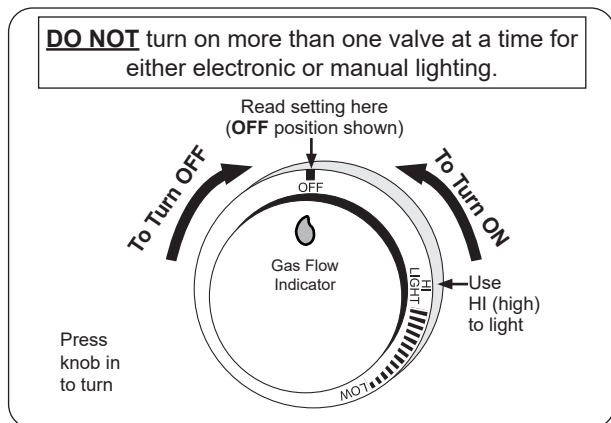

Fig. 37-1 Control knob
**For your convenience and safety, when the control knob is turned to the on position, the gas flow indicator will change from blue to red. (Red indicates gas flow.) See Fig. 37-1.**
4. Depress the desired control knob **for 5 seconds**. Ensure the igniter is glowing (inside of lighting tube), then, while pressing turn the knob counterclockwise to the **HI LIGHT** position (Fig. 37-1). Once the burner lights, release the knob.